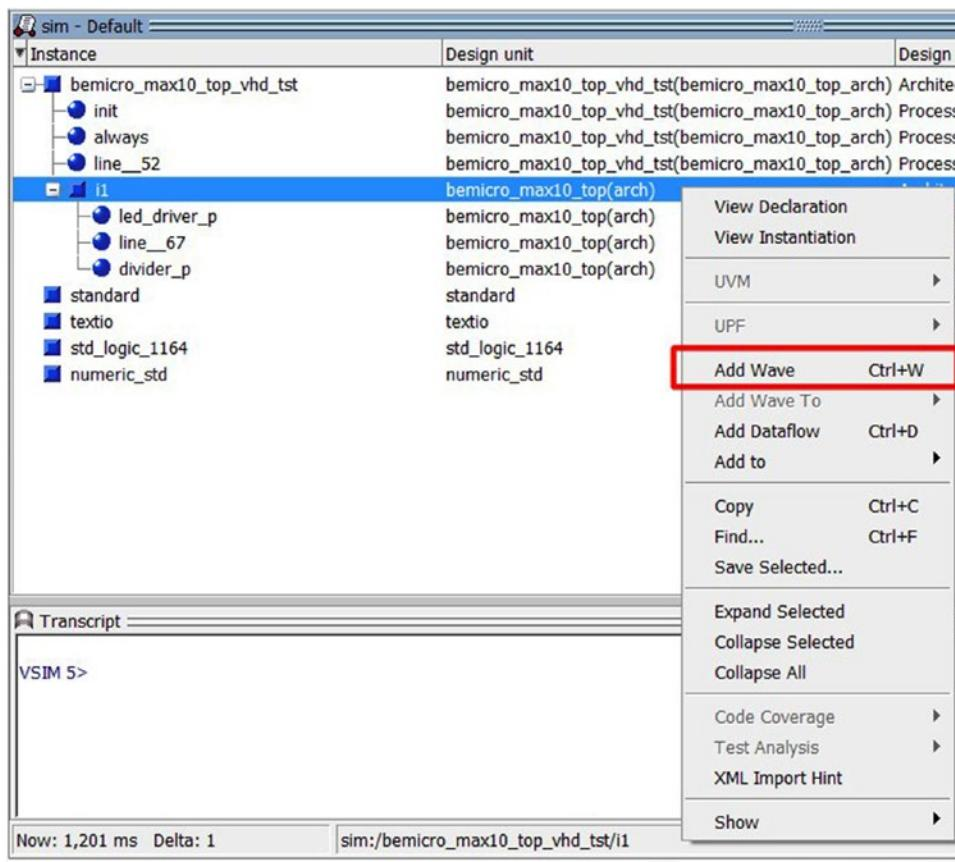

Figure 4-46. Add all the signals into a Wave display
11. Right-click the Instance :i1 or Design unit: **bemicro_max10_top(arch)**, and click **Add Wave**. Figure 4-46 shows the location. It will pop up a Wave window like Figure 4-47. You can also trigger it by entering the following script in the Transcript box: